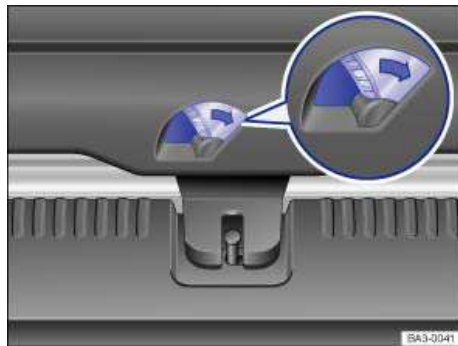

Fig. 199 Inside the luggage compartment: Unlocking the luggage compartment lid.
- Push the lever in the direction of the arrow ⇒ fig. 199. The luggage compartment lid opens automatically. At temperatures under +32 °F (0 °C), you may have to push the luggage compartment lid open manually.